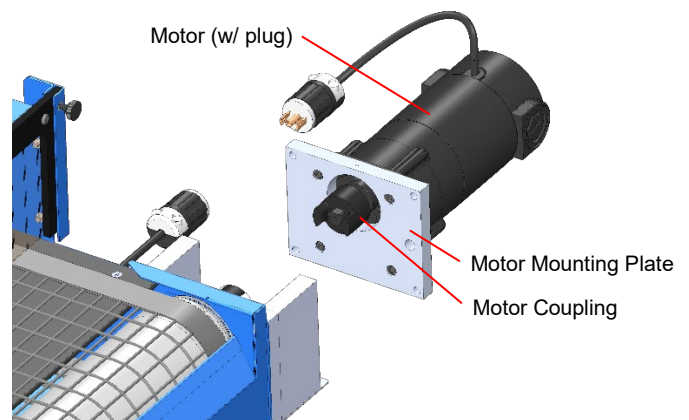

Figure 5. Remove the Motor Subassembly from the Conveyor
4. Unplug the electrical plug and remove the Motor subassembly from the conveyor. This subassembly consists of the Motor (w/ plug), the Motor Mounting Plate, and the Motor Coupling (Figure 5).